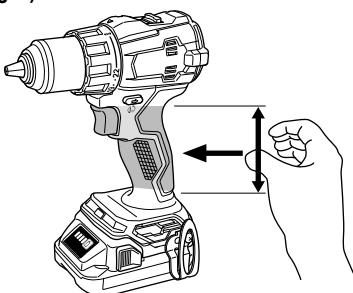

Fig. 1
- 4. Make sure to securely hold the tool during operation. Failure to do so can result in accidents or injuries. (Fig. 1)**